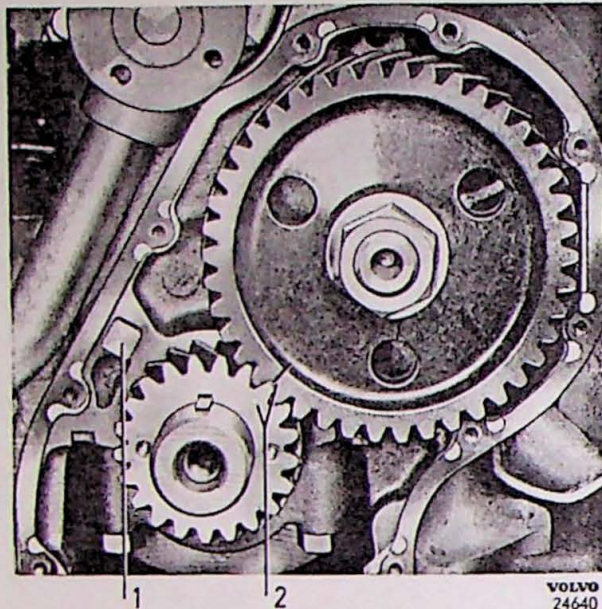

Fig. 1-29. Timing gear setting
4. Fit the crankshaft gear with SVO 2407, Fig. 1-26. Fit the camshaft gear with tool SVO 2408, Fig. 1-27. Do not push the shaft in so that the seal washer at the rear end of the camshaft is forced out. Check that the gears have the correct internal relationship according to the markings shown in Fig. 1-29. There are flats on tool SVO 2407 to turn the crankshaft.